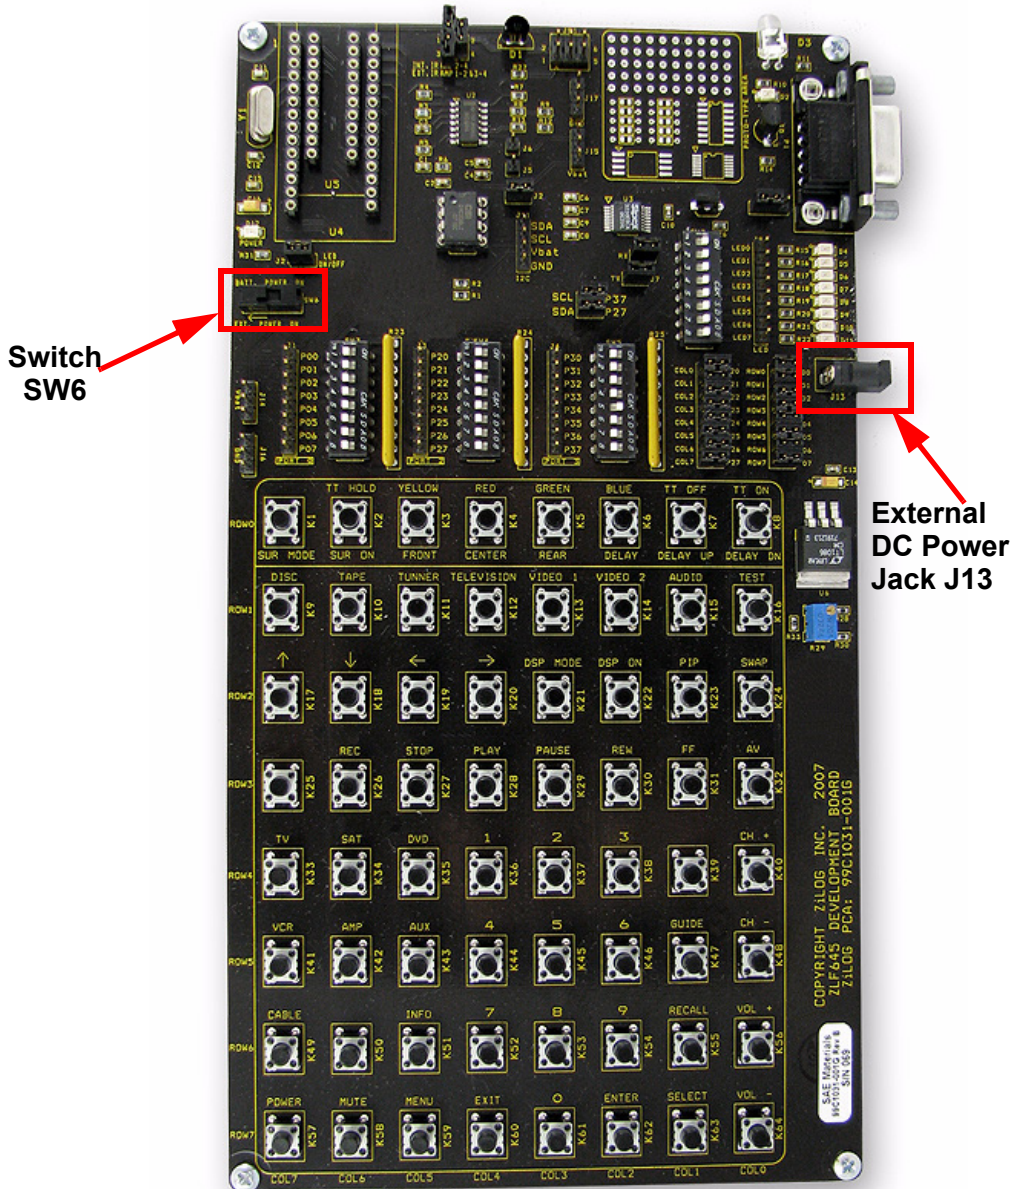

Figure 1. Crimzon® Development Board Kit
Zilog's ZCRMZN00100KITG Crimzon® Development Board Kit is designed for use as a target with the Crimzon In-Circuit Emulator (ZCRMZNICE01ZEMG). The kit is powered by two 1.5 V AAA batteries (see Figure 1). The development board can also be powered using an adjustable DC power supply connected to input jack J13. This product user guide helps you to install the batteries supplied with the accessory kit and tells how to verify proper development board operation.
2. Set switch SW6 (see Figure 1) to the BATTERY position.
1. Set switch SW6 (see Figure 1) to the EXTERNAL position.
2. Connect the adjustable DC power supply to jack J13 (see Figure 1).